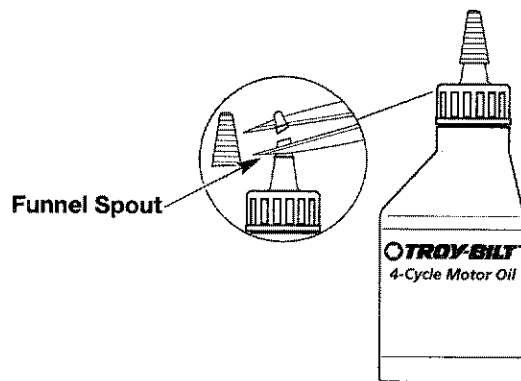

Fig. 16
Your unit is supplied with one 3.4 fluid oz. (100 ml.) bottle of SAE 30 SF, SG, SH oil (Fig. 16).
1. Unscrew the top of the bottle of oil and remove the paper seal covering the opening. Replace top. Cut the tip off the funnel spout (Fig. 16).